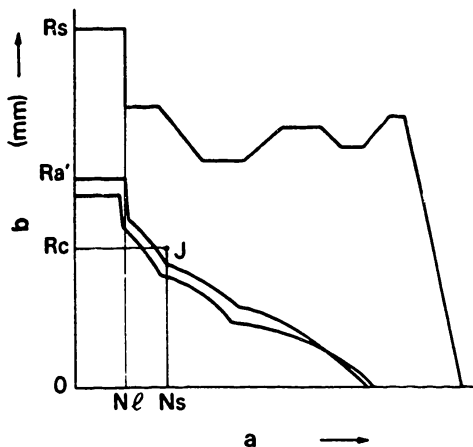

Fig. 179
1. With the pump speed maintained at  $N_s$  rpm, lock the control lever when the control rack position is  $R_c$  mm (point J in Fig. 179).